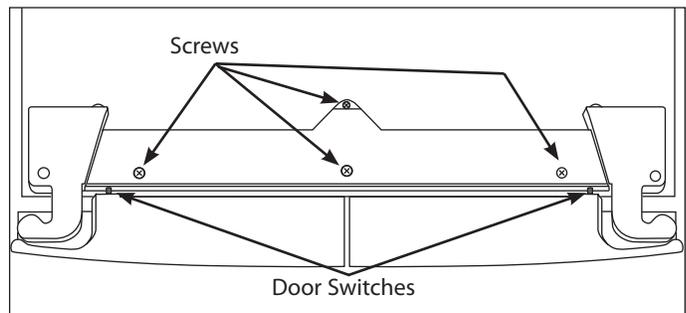

Figure 6-26.
3. Turn the eyebrow trim over to access the wire harness connections to the door switches and humidity sensor. Disconnect from the wire harness at the connections from under the hinge covers. (See Figure 6-26)